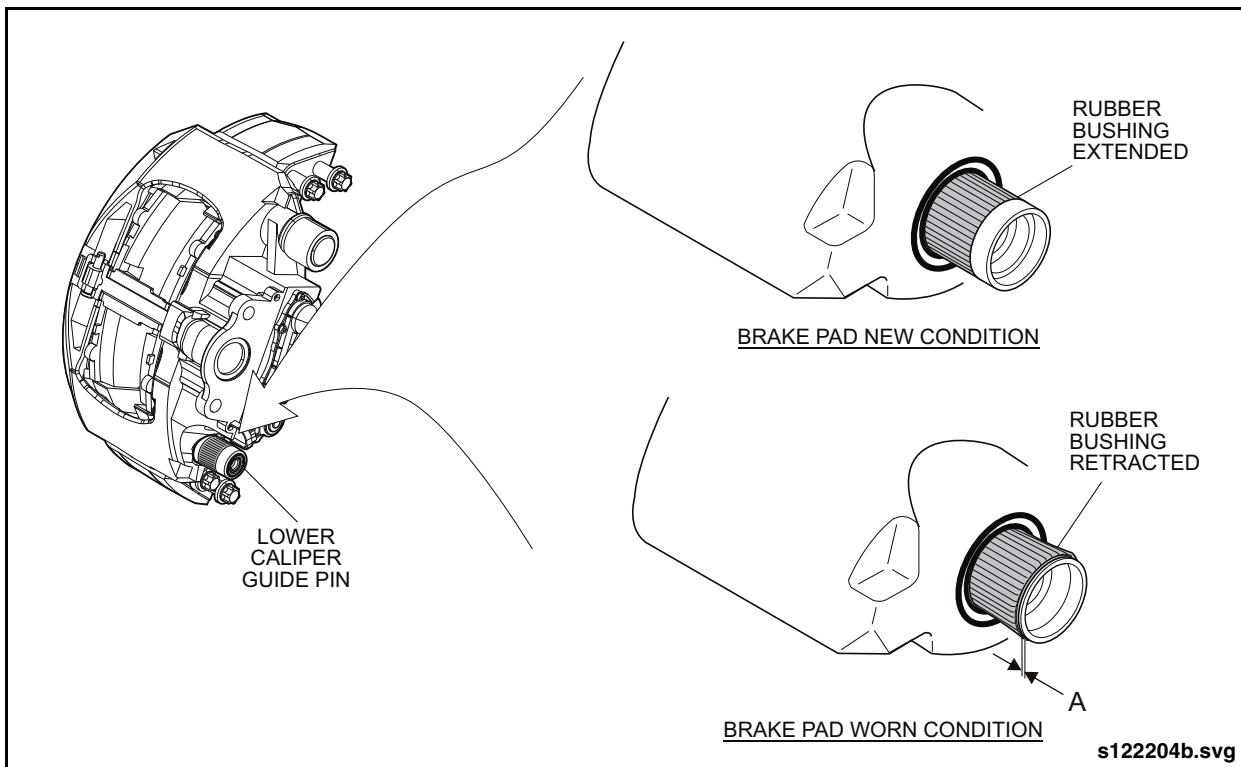

Fig. 2-112: Brake Pad Wear Inspection
2. Inspect the amount of deformation on the bellows area of the rubber bushing. A fully extended bellows indicates a new brake pad condition. A retracted and bulged bellows (where Dim A <= 1mm) indicates a worn brake pad condition. See "Fig. 2-112: Brake Pad Wear Inspection" on page 102.